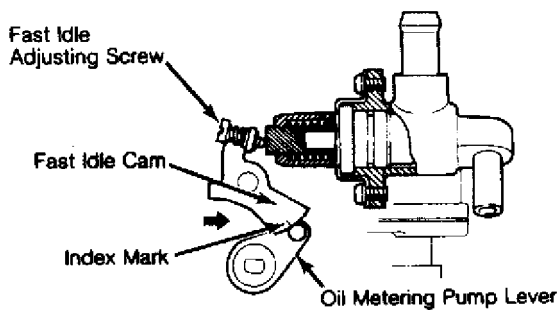

Fig. 34: Checking Oil Metering Pump Rod Clearance on 1.3L Engine
1) Check metering pump clearance by setting fast idle cam against metering pump actuating lever. See Fig. 34.